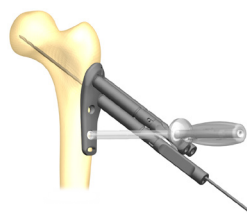
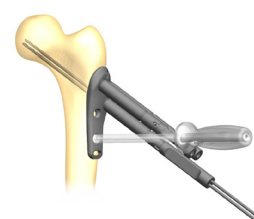

Figure 6a
Figure 6b
- Remove the calcar 2.8mm Guide Pin Insert and insert the Parallel Pin Guide (7117-9226) over the inserted 2.8mm Guide Pin (Figure 6a). Rotate the Parallel Pin Guide and insert a second 2.8mm Guide Pin through the second hole in the desired calcar location (Figure 6b). Remove the original 2.8mm Guide Pin and the Parallel Pin Guide. Reinsert the 2.8mm Guide Pin Insert over the adjusted 2.8mm Guide Pin.